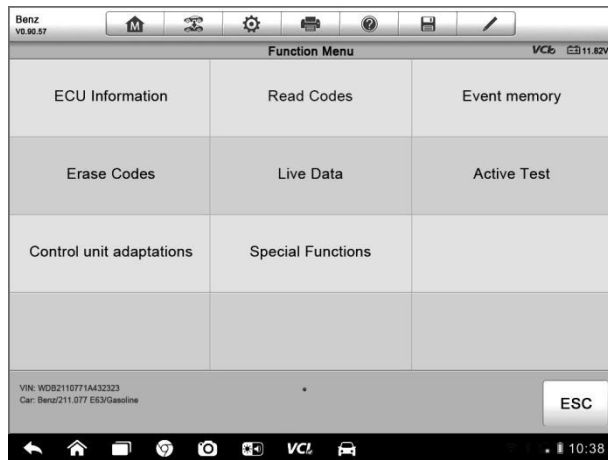

Figure 4-7 *Sample Function Menu Screen*
- Tap the  button to the right of the system item, on which you want to perform further diagnosis and other test activities. A Function Menu screen (Figure 4-7) shall then display.